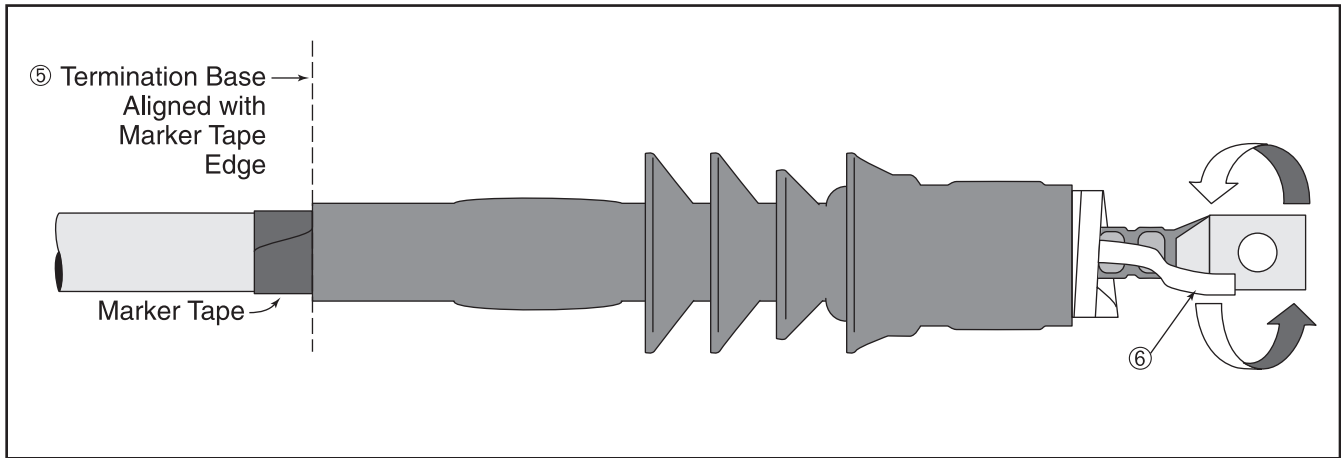

Figure 14
- (c.) Align the base of the termination (not the plastic core) with the installation marker tape as shown (Figure 14).
- (d.) Grasp the loose white core ribbon. Pull and unwind counter clock-wise around cable end (Figure 14).